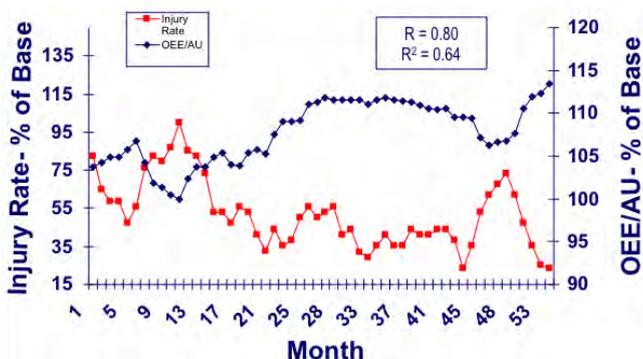

Figure 1: Production capability (OEE) versus injury rate
When a plant is reliable, there are fewer failures and process upsets, resulting in higher production capability as measured by asset utilization (AU) or overall equipment effectiveness (OEE). This reduces the exposure to the risk of injury. See Figure 1.